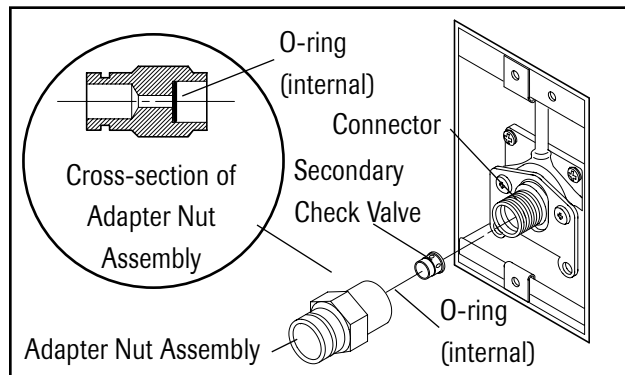

Figure 10
Adapter Nut Assembly Installation (Figure 10)
1. Reinstall the O-ring seal in the adapter nut if not already in place (see cross-section Figure 10).